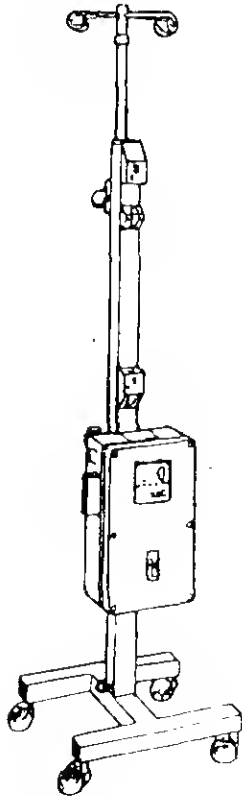

Figure 1
2. Slide the Power Unit Pole down over the vertical square base tube with Power Unit facing the longer side of the base as shown in Figure 1.